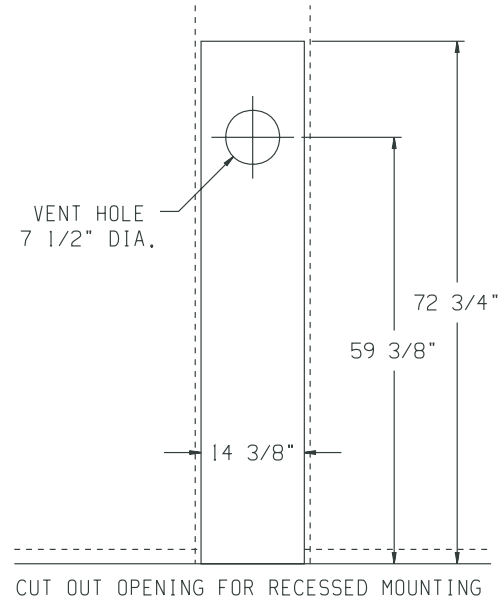

Figure 5
The furnace is to be located on an outside wall. Locate wall studs so that wall opening will be located between wall studs. The furnace is 14 1/8" (358mm) in width and can be recessed between standard 16" (406mm) on center wall stud. The wall opening required as shown in Figure 5 is a diameter of 7 1/2" (191mm).
A template is provided in furnace carton for positioning furnace on the wall. Also, refer to Figure 5 and Figure 7 for positioning the furnace on wall and for locating gas line connection.
Refer to Figure 5 for the location of the 7 1/2" (191mm) diameter wall opening for the furnace. After the wall opening has been located and cut, position flue outlet on furnace in center of wall opening. When attaching furnace to the wall, remove that portion of baseboard and molding on the wall which is behind the furnace. Attach furnace to wall, at the outer casing top, with (2) toggle bolts provided and to floor, at the out casing bottom, with (2) #10 x 1 1/2" (38mm) screws provided.